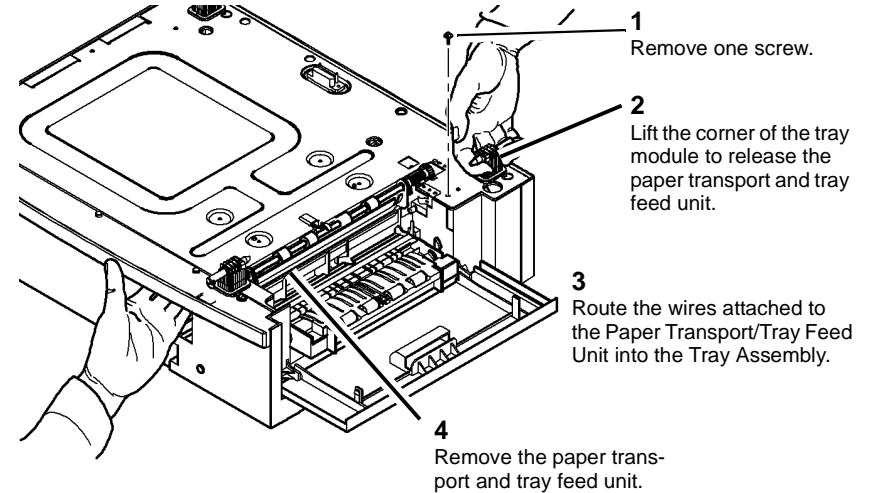

Figure 5 Removing the Paper Transport and Tray Feed Unit
13. Remove the paper transport and tray feed unit, Figure 5.